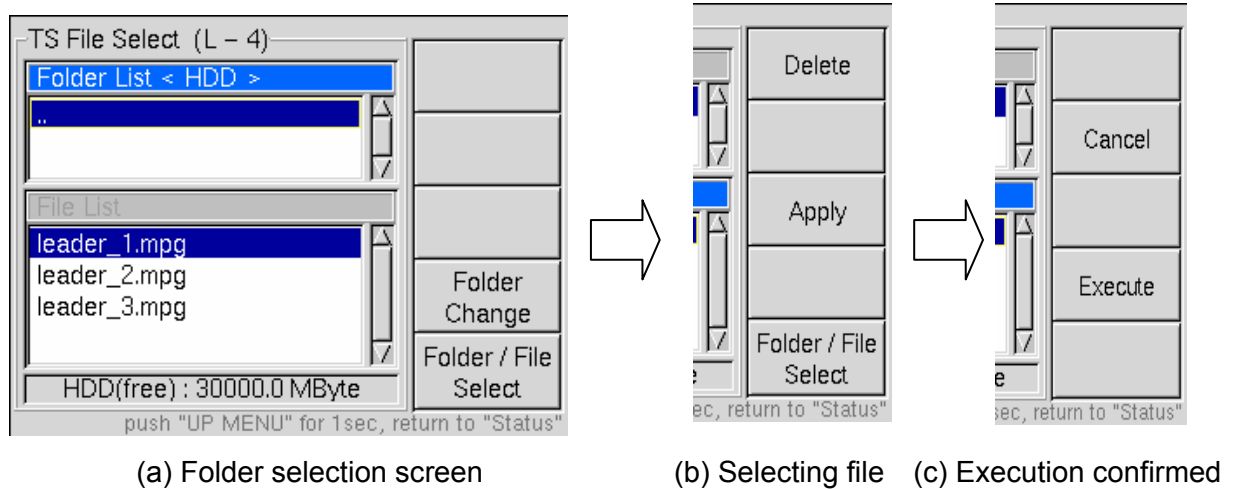

Figure 10-21 Deleting file
- (1) Highlight the file to be deleted by pressing the F4 (Folder Change), F5 (Folder/File Select), and \uparrow or \downarrow keys sequentially.
- (2) Press the F1 (Delete) key to change F key assignments as shown in Figure 10-21 (c). Press the F4 (Execute) key or F2 (Cancel) key as required.
- (3) "Under deletion" displays at the lower part of the screen. This instrument enters the deleting mode. When deleting the file, the function key assignments are canceled; no other key operations can be performed. The internal HDD access lamp lights.